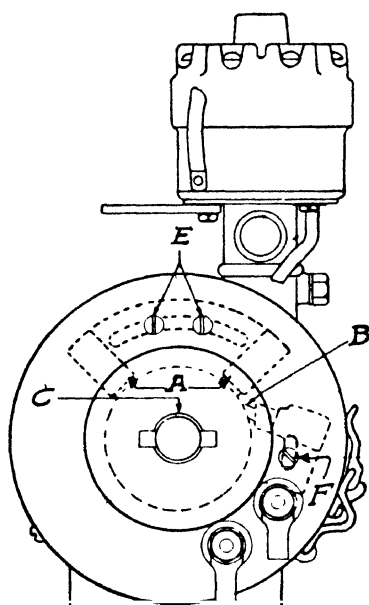

Fig. 293. Diagram of Arrangement of Brushes on Leece-Neville 6-Volt Generator
**Regulation.** Generators of the 1915 and 1916 models are controlled by armature reaction through a third brush, the field coils receiving their exciting current from the armature through this brush. The position of the latter on the commutator is shown at *B*, Fig. 293. A slight rotation of this brush relative to the com-
*Regulating Brush.* In case the generator output falls off as shown by its inability to keep the battery properly charged, the battery itself and all connections being in good condition, and a proper amount of day running being done to provide the necessary charging current, the trouble may be in the regulating brush of the generator. Test by inserting an ammeter, such as the Weston portable or any other good instrument with a scale reading to 30 amperes, in the line between the generator and the battery. Run the engine at a speed corresponding to 20 miles per hour, at which rate the ammeter should record a current of approximately 15 amperes. If the ammeter needle butts against the controlling pin at the left end of the scale instead of showing a reading, it indicates that the polarity is wrong, and the connections should be reversed. Should there be no current whatever, the needle will stay perfectly stationary except as influenced by vibration. If the ammeter shows a reading of less than 15 amperes, the current output of the generator may be increased by loosening the set screw holding the third brush and rotating the brush slightly in the same direction as the rotation of the armature. This should be done with the generator running and the ammeter in circuit, noting the effect on the reading as the brush is moved. To decrease the output, it should be moved in the opposite direction until the proper reading is obtained, after which the brush must be sanded-in to a good fit on the commutator. It may sometimes occur that sufficient movement cannot be given the third brush without bringing it into contact with one of the main brushes. This must be avoided by loosening the two set screws *E*, Fig. 293, and moving the main brush holder away
To increase the output of the generator, rotate the third brush in the direction of rotation of the armature; to decrease the output, move the brush against the direction of rotation. Adjustments should be made with the engine standing. Loosen the screw at the rear of the commutator housing shown at the point *F*, Fig. 293. This releases the third brush holder, and the brush may then be moved in the direction desired. It should be moved only a short distance,
and the generator then should be tested until the desired output is secured. In case the third brush should come in contact with the main brush above in the course of adjustment, it will be necessary to move the main brushes. To do this, loosen the two set screws *E*, Fig. 293, and move the main brush holder far enough away from the third brush so that there is no possibility of contact between them. When the desired location is found, sand-in the third brush to the commutator and also clean the commutator with a piece of worn sand-paper as described in the section on Sanding-In the Brushes (Delco instructions); if it has been necessary to move the main brushes, they should be sanded-in also. The brush holder screws should be well tightened after making any adjustments to prevent any possibility of the vibration and jolting loosening them up and throwing the generator out of adjustment again.